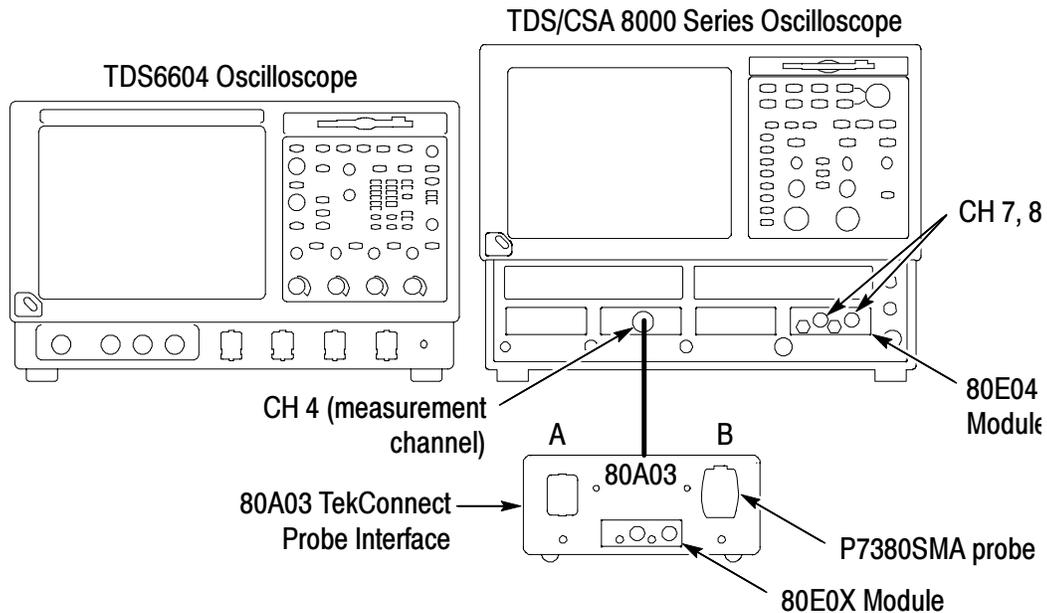

Figure 35: Preliminary test setup
1. Connect the 80A03 TekConnect probe interface to channels 3 and 4 of the TDS8000 oscilloscope. See Figure 35.